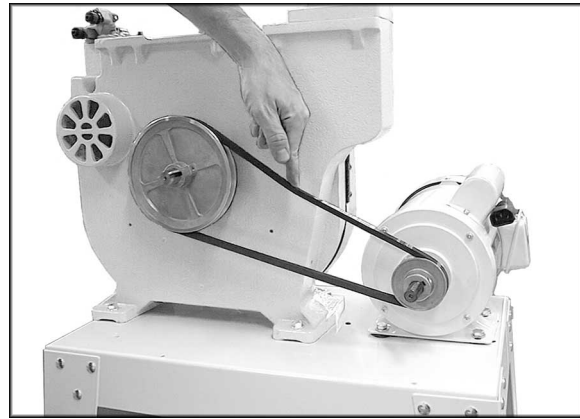

Figure 8
9. Place v-belt over both pulleys. See Figure 8.
10. Tension v-belt by moving motor away from the saw body and tighten the motor mount nuts. (Do not over-tighten motor mount bolts. Tighten just enough to tension belt.) Belt is properly tensioned when finger pressure between the two pulleys (Figure 8) causes approximately 1/2" deflection.